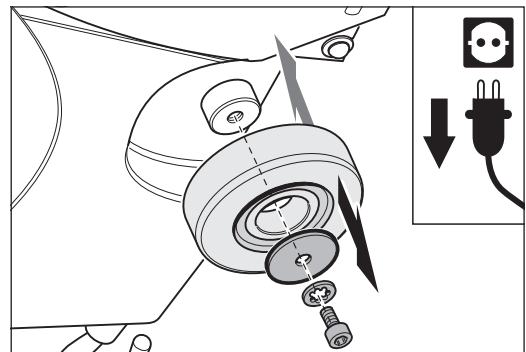
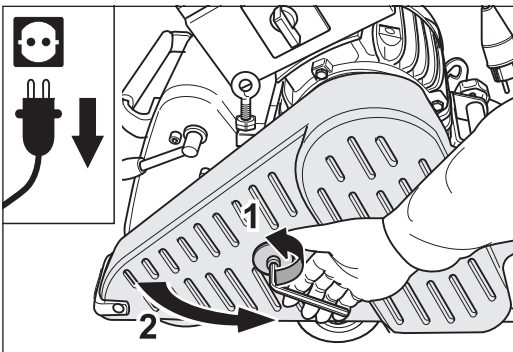

Fig. 99 Remove the screw and washers in the centre of the wheel and remove the lateral wheel. Assemble the new wheel in reverse sequence.
Fig. 101 Pull the power plug out of the socket and open the belt guard.
- 4 Release the screw in the centre of the wheel and remove the screw and washers (Fig. 99). Before removing the **left** lateral wheel open the belt guard (Fig. 101).
- 3 Open the belt guard (Fig. 101).